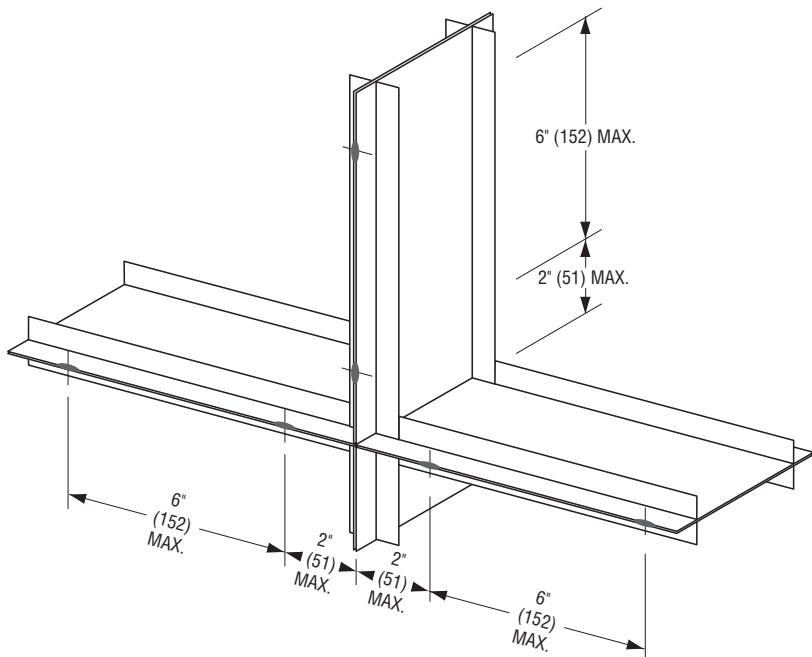

Figure 1.
8. Multiple Section Assemblies. Individual dampers may be joined together to make multiple section damper assemblies (see Figure 1). The frames shall be fastened together using 1/4" (6) long welds, 3/16" (4.76) steel rivets, 1/4" (6.35) bolts and nuts, #8 sheet metal screws or 3/16" (4.76) buttonlocks on both sides of the damper at 6" (152) max. on center and 2" (51) max. from the corner of the damper on all 4 sides. The following additional requirements shall be met: